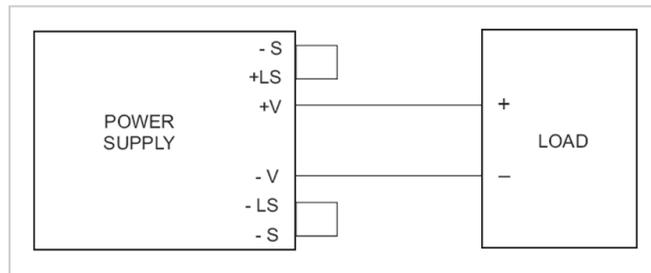

Fig. 3: Schematic of Power Supply with "Local Sense" Jumpers Installed
6. There are applications where the user may not want to use the remote sense feature. In these cases, the remote sense lines should not be left open for optimum load regulation; instead, a local sense configuration must be used. Referring to Fig. 3, to use a local sense set up the + and -Sense lines should be connected to either their corresponding local sense (LS) terminals, which are provided on many power supplies, or connected to the corresponding +Vout and -Vout terminals. Most power supplies are shipped from the factory with these "Local Sense" jumpers installed on the power supply (see photos below).